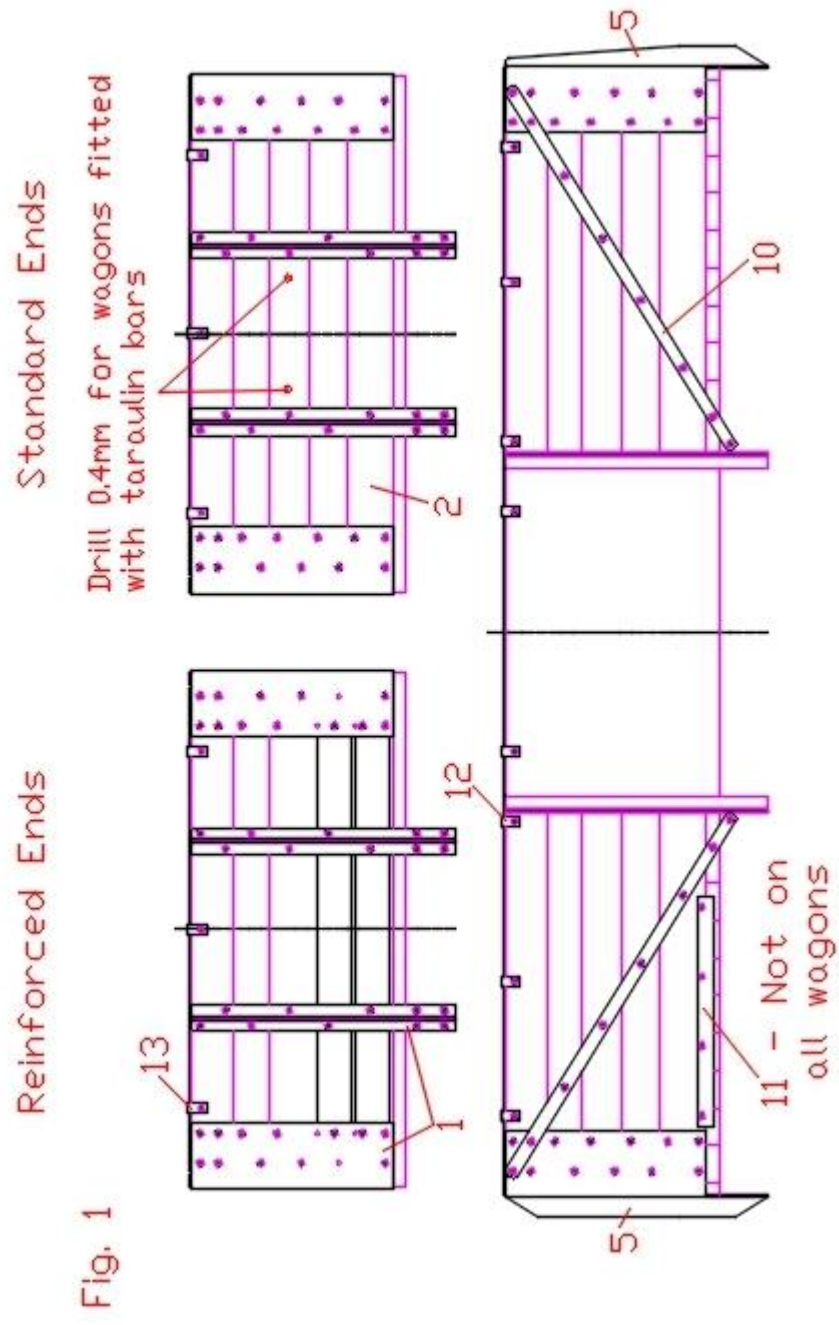

Fig. 1
If you plan on modelling an LMS open fitted with a tarpaulin bar (C.53 only) then now is the best time to drill out the locating holes for the tarpaulin bar hoop with a 0.4mm drill. See Fig. 1.
The side strapping (10) can be removed from the fret, tidied up and glued in place. See Fig. 1. I used superglue to fix them in place.
There are floor reinforcing plates (11) included. These were designed to stop the floor planking from moving laterally but weren't fitted to all so check your prototype. See Fig. 1 again for positioning details.